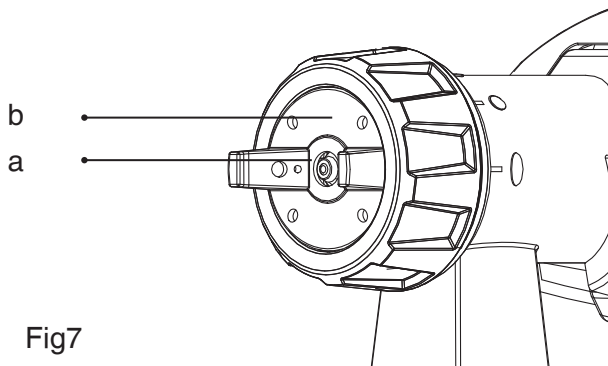

Fig7
- When coating material builds up on the nozzle (A) and air cap (B) (Fig. 7), clean both parts with a solvent or water.